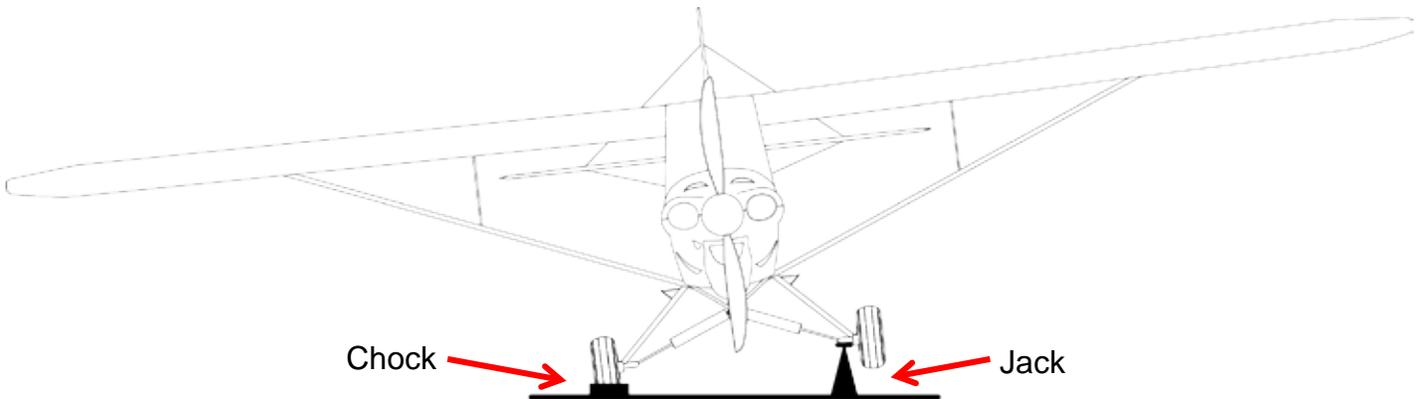

Figure 2 – Jacking from Main Axle
- (b) Place a jack under the main axle as shown in Figure 2.